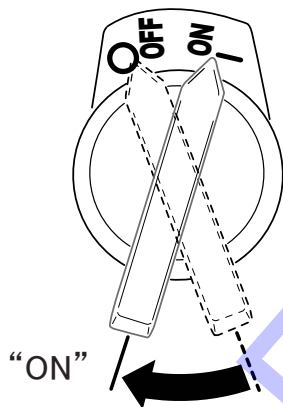

Figure 11. Engine ON/OFF Switch
2. Place the engine ON/OFF switch (Figure 11) in the **ON** position.